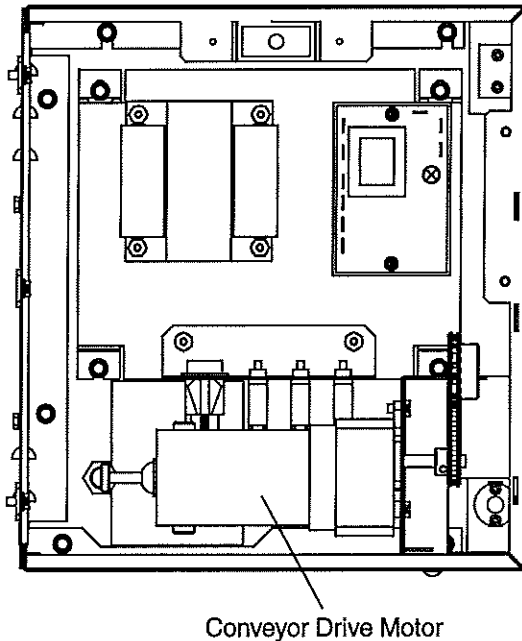
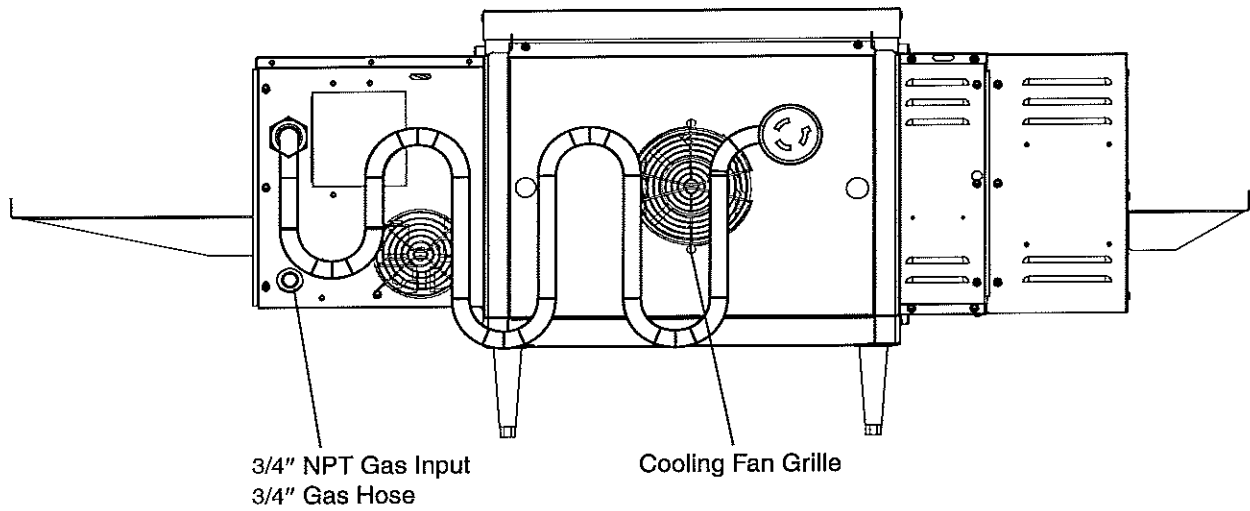

Figure 1-5. Machinery Compartment
Figure 1-6. Cooling Fan
The conveyor belt is driven by a variable-speed electric motor (Figure 1-5) operating through a gear reducer. The motor speed is controlled by a digital control. The stainless-steel wire belt can travel in either direction at variable rates ranging from 1 minutes to 10 minutes; this is the time that a product can take to pass through the oven.
D. Cooling Fan — See Figure 1-5 and Figure 1-6